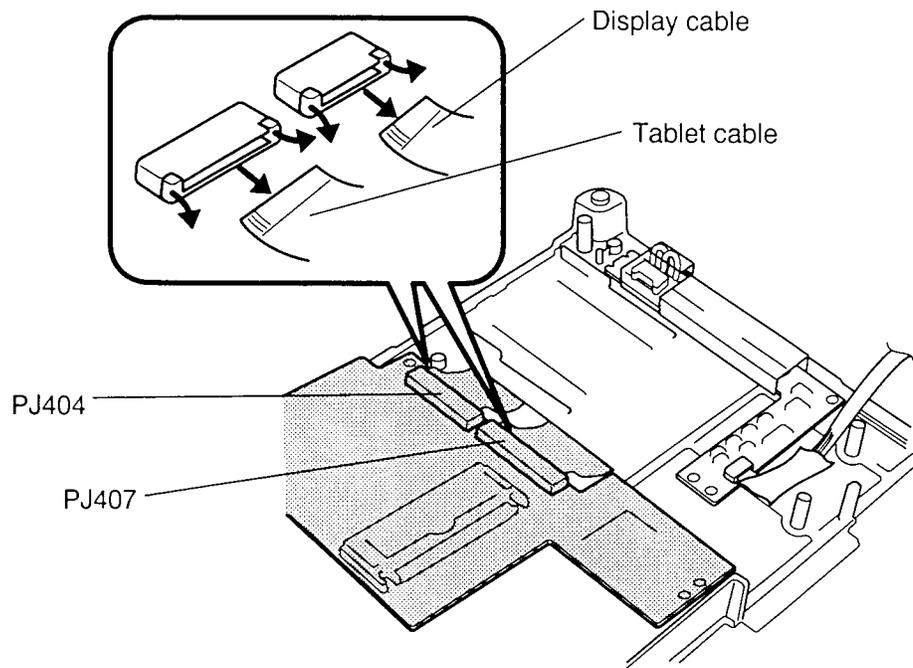

Figure 4-13 Disconnecting the Tablet Cable and Display Cable
- Carefully rotate the lower system board out of its seating and disconnect the **tablet cable** from **PJ407** and the **display cable** from **PJ404** (Figure 4-13).
1. Connect the **tablet cable** to **PJ407** (Figure 4-13).
2. Connect the **display cable** to **PJ404** and carefully rotate the system board (Figure 4-13).